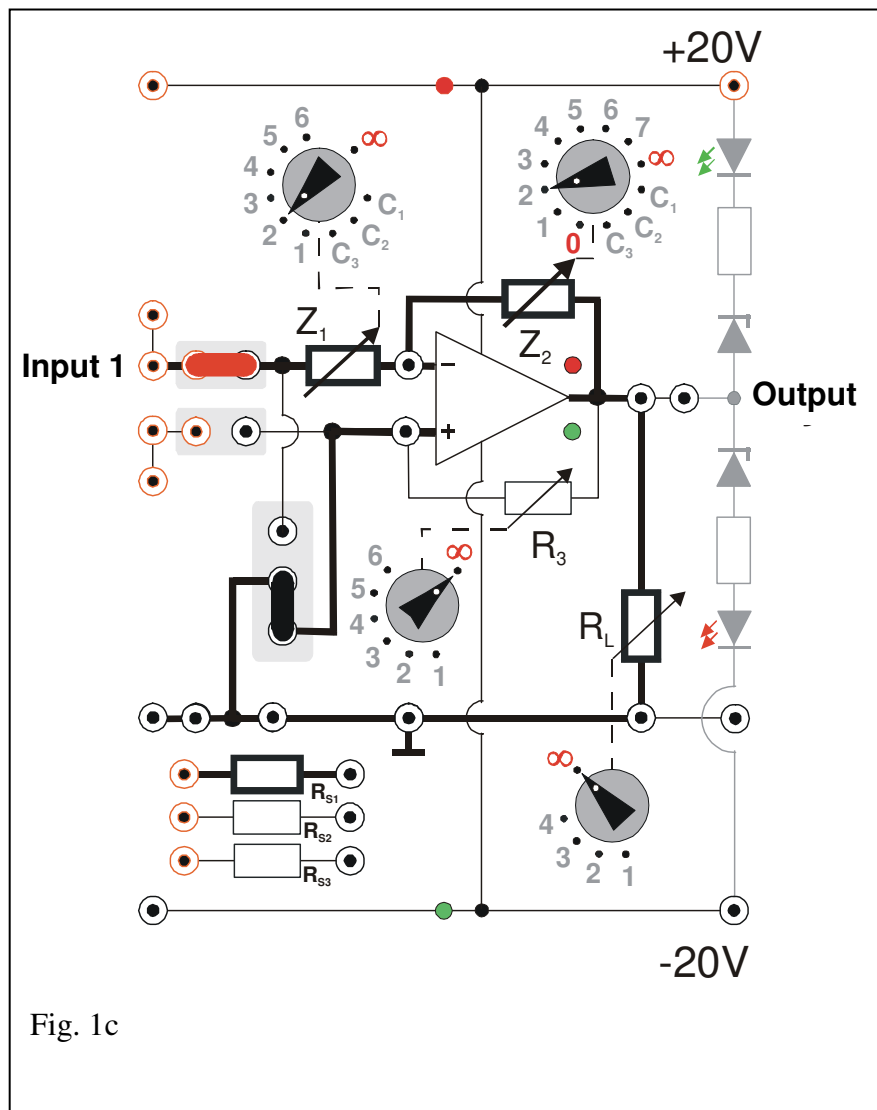

Fig. 1c
(Connection diagrams are presented in Figures 1a and 1b and the experimental module is presented in Fig 1c).
2. Set the switches  $Z_1$  and  $Z_2$  to the “2” position (Fig. 1c).
2. Remove the jumper from Input 1 position (Fig. 1c). Put the  $R_{S1}$  resistor instead of the jumper.
1. Insert the jumper to the Input 1 position (Fig. 1c).